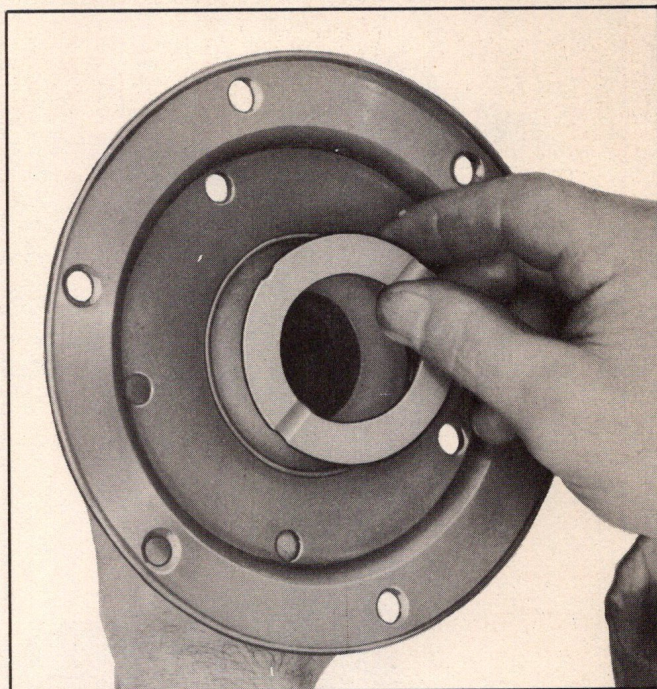

Fig. 256—Installing Thrust Washers
1. Hold reverse center gear in left hand with drive flange up; install the steel thrust washer, and then the bronze thrust washer in the recess of the drive flange (Fig. 256).